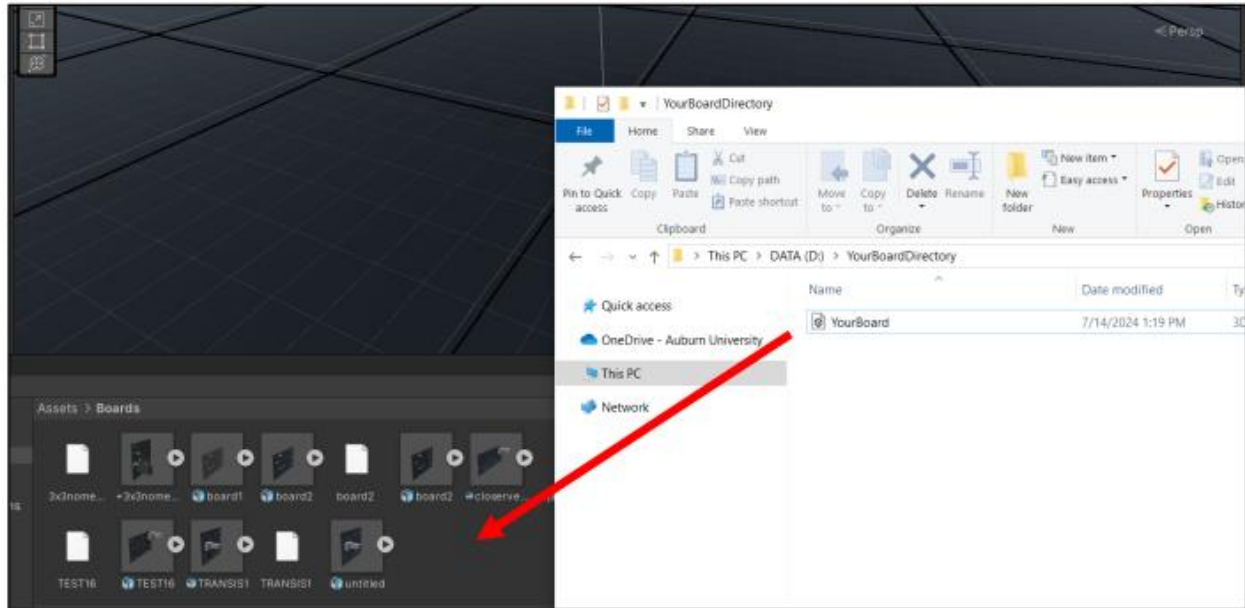

Figure 10: Importing your PCB
- a. Once you have your desired PCB in a compatible file type, open the folder containing the 3D object. Next you will need to access the Boards folder that came with the simulation. This can be done through the Unity Editor, under the Project tab. Click to open the Assets folder, and find a new folder titled Boards, then click into the folder. Once here, drag and drop your board into the folder. The board will now be present in the Project tab. * Disregard preexisting boards in Figure 10. These will not be present in your project.